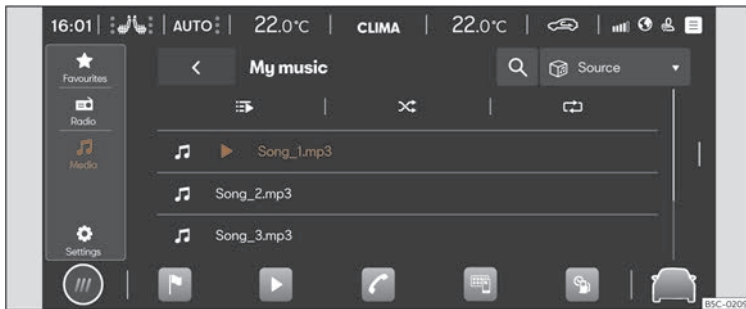

Fig. 167 Schematic diagram: Media view
- Press HOME > ► > 🎵 >>> Fig. 167.